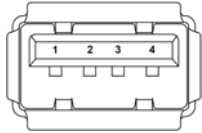

Figure 4-28: USB Connector Pinout Locations
- CN Pinouts:** See Figure 4-28 and Table 4-29